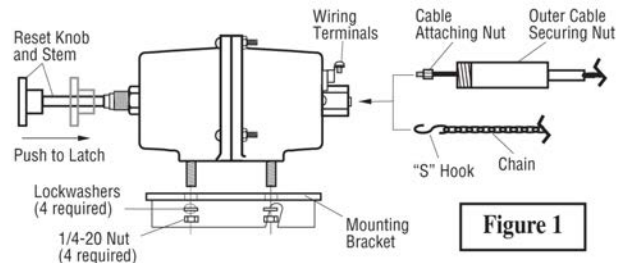

Figure 1
1. Mount the RP75 using the 40-05-0161 mounting bracket or similar (see **Figure 1**). If installing the RP75 to an engine compartment firewall, go to Step 2.
1. To install the control linkage (cable or chain), apply voltage to the RP75. Push in the reset knob. If installing the cable, insert the cable attaching nut into the RP75 and tighten snugly (see **Figure 1**). **DO NOT OVERTIGHTEN** or threads may strip. Attach and tighten outer cable securing nut. If installing the chain, attach the "S" hook to the RP75 (see **Figure 1**).